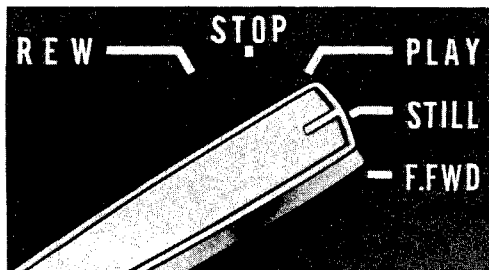

Fig. 23
1. To reproduce still images, turn the Function Lever ⑮ to the STILL position (Fig. 23).